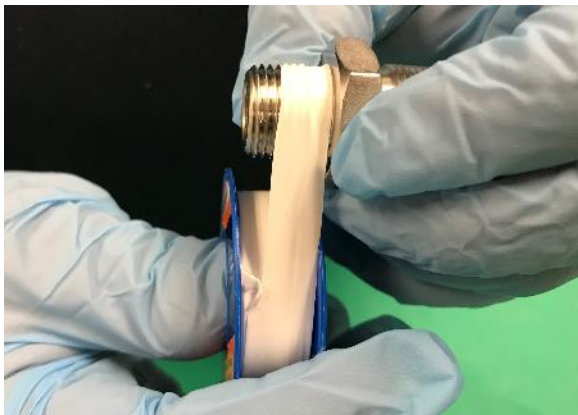

Figure 39. Wrap the Threads with Teflon Tape.
STEP 7 | Unpack the new replacement pump assembly and move gas connection fittings from the pump removed in Step 6. The fittings will need to have all Teflon tape removed and re-wrapped with 2-3 layers of Teflon tape following the direction of the threads (Figure 39).